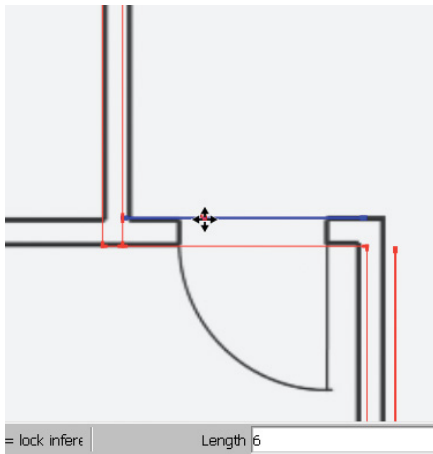

Figure 5-14: Draw one line, copy it, and move it 6" away.
- ▶ Trace one line on each interior wall and then copy it 6" to the left or right (Figure 5-14).